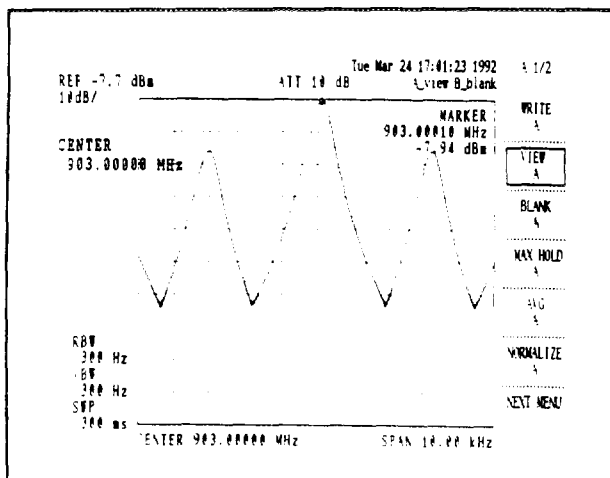

Figure 4-14 FM Signal f_c and E_c
- Write down the carrier frequency f_{C} (from the center frequency indicator) and the carrier level E_{C} (from the reference level indicator). (See Figure 4-14.)